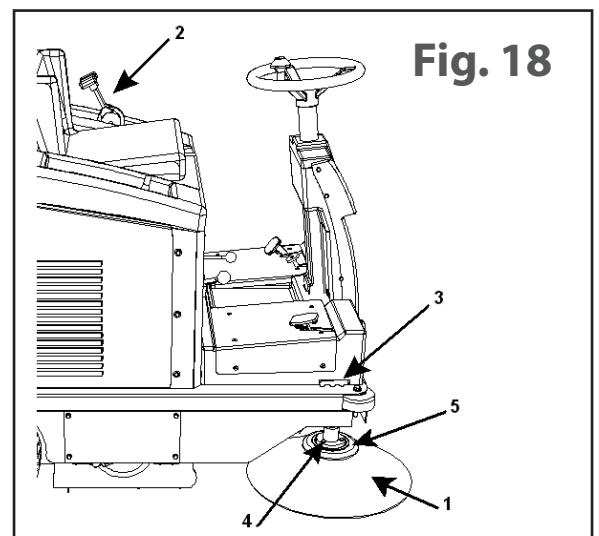

Fig. 18
When the side brush **Part. 1 Fig. 18** is no longer able to convey dirt to the central brush, the height of the side brush will have to be adjusted as follows:
1. Unscrew the three bolts **Part. 4 Fig. 18** to detach the side brush **Part. 1 Fig. 18** from the plastic flange **Part. 5 Fig. 18**.
2. Replace the worn brush and screw up the bolts **Part. 4 Fig. 18** to the flange **Part. 5 Fig. 18**.